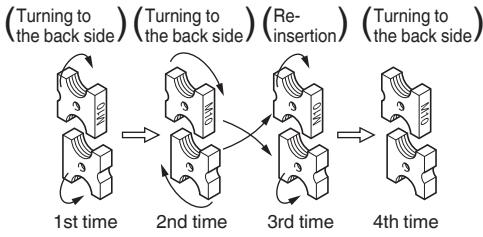

Fig. 19
- ① There are four edges on the cutter. As shown in **Fig. 19**, by changing the position of the edge it is possible to use the blade four times.